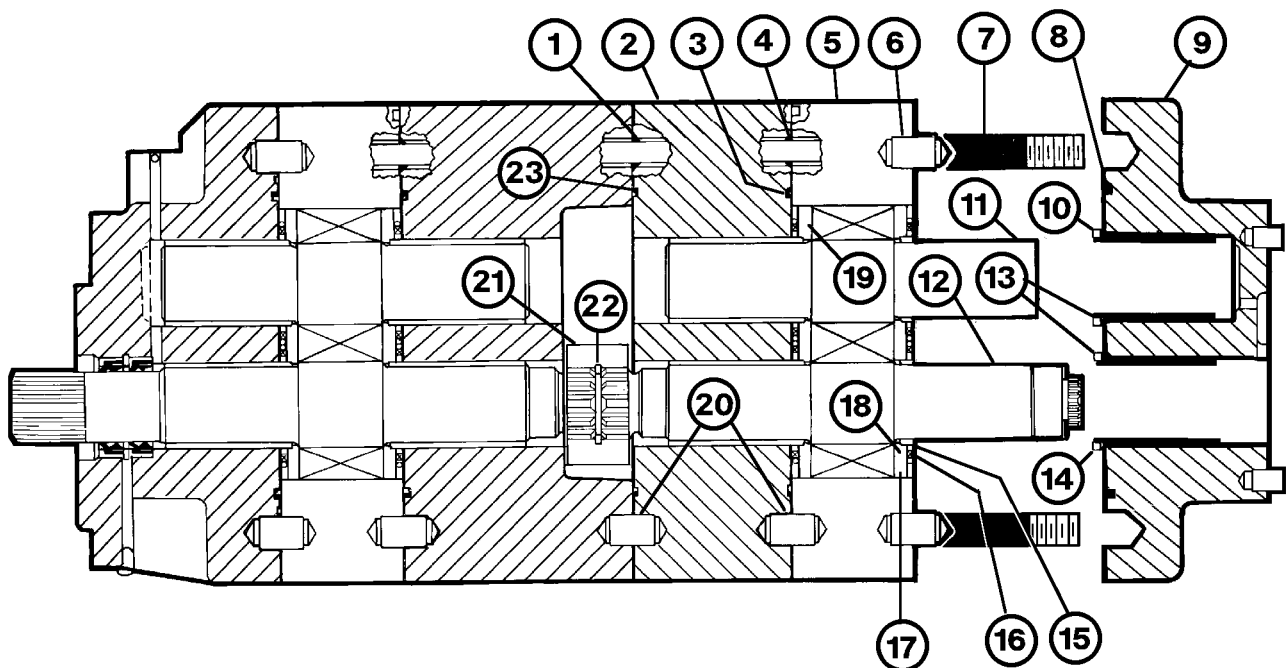

FIGURE 3-5. HOIST PUMP DISASSEMBLY (Rear Section)
5. Remove connector plate (9, Figure 3-5). Remove O-ring (8) and steel rings (10) and (14). Remove dowels (6) if damaged or if replacement of the connector plate is necessary.
6. Remove backup ring (15), O-ring and retainer (16) and isolation plate (17). Grasp the drive gear (12) and idler gear (11) and pull straight up and out of the gear plate (5) bore. Remove pressure plate (18) from gears.
7. Remove gear plate (5) and pressure plate (19). Remove the steel rings, backup ring, O-ring and retainer, and isolation plate. Remove O-ring (3) and stud O-ring (4).
8. Remove bearing plate (2, Figure 3-5). Remove O-ring (23) and stud O-rings (1). Remove dowels (20) if damaged or if replacement of the bearing plate is necessary.
9. Remove coupling (21). Remove snap ring (22) if damaged or if replacement is necessary.